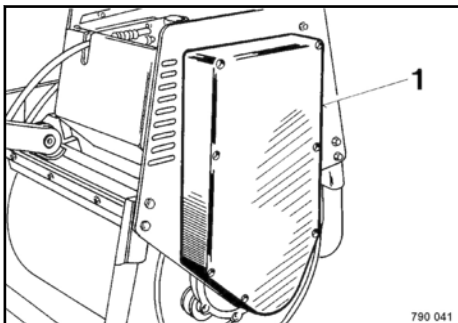

Fig. 61
Remove the guard (1) ↪ Fig. 61.